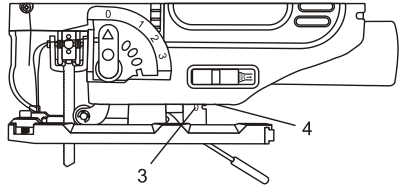

Fig. 5
2. Bevel angles (3) are marked on a scale located on the side of the base (Fig. 5).
3. Slide the base toward the front of the jigsaw and align the bevel angle with the edge of the base (4).